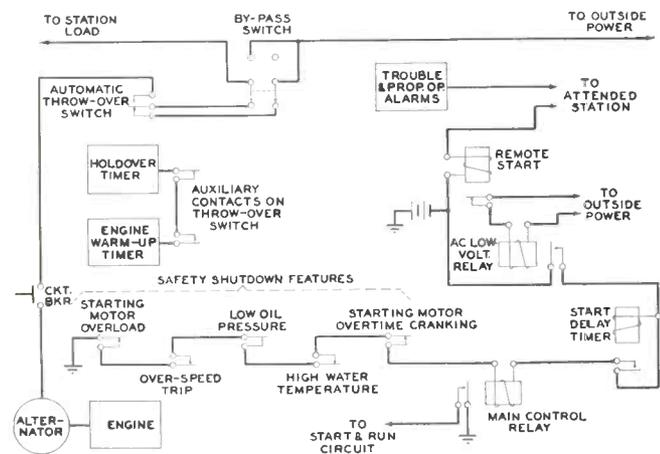

FIG. 1. POWER SWITCHING SYSTEM USED FOR TYPE L UNATTENDED RELAYS
*This material appeared originally in the *Lenkurt Demodulator*, a publication of Lenkurt Electric Company, San Carlos, Calif. Fig. 1 courtesy of U. S. Dept. of Interior.
A simplified block diagram of the essential features of the control system is shown in Fig. 1. Since there is usually no attendant within a number of miles of the station, it is important, in case of trouble, to stop the engine before damage is done. If the speed becomes too high, oil pressure too low, or cooling solution too hot, controls are arranged to stop the set and transmit alarm signals to maintenance people at a control center. If the engine should fail to start during the cranking period, cranking is stopped after a predetermined period to avoid complete discharge of the starting battery. This is a separate storage battery with a rectifier to keep it in a fully charged condition. Similarly, if the heavy initial inrush of starting motor current persists—as it would, for example, if the bearings seized—the attempt to crank the engine is discontinued so as to avoid damage to the starting motor. Signals are also given to indicate power failure, to show when the engine set is carrying the station load, and to warn that the fuel supply may be running low.